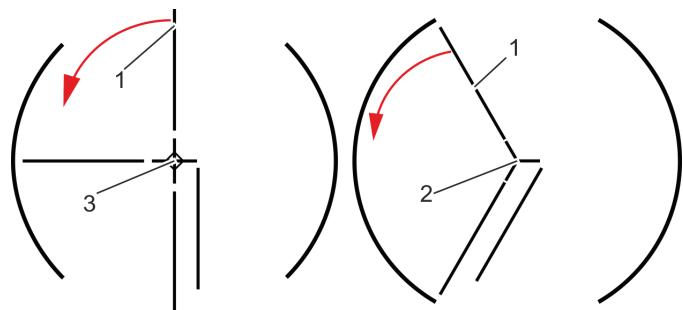

Fig. 49 Folding the next wing to the side (four and three wings)
5. Have one person hold the back wing (Fig. 49/2) so that the next wing (Fig. 49/1) can be folded back.
1. Push the wing (Fig. 49/1) in short bursts.